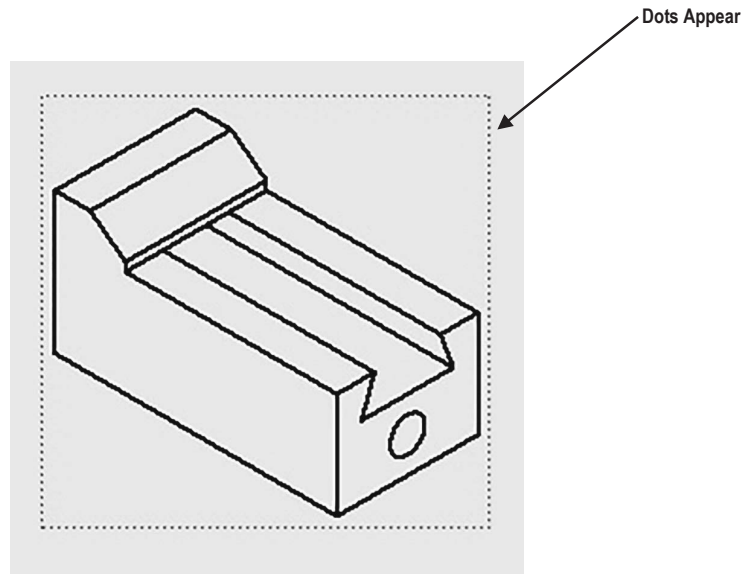

Figure 24
29. Move the cursor over the isometric view in the upper right corner of the drawing. Dots will appear as shown in Figure 24.